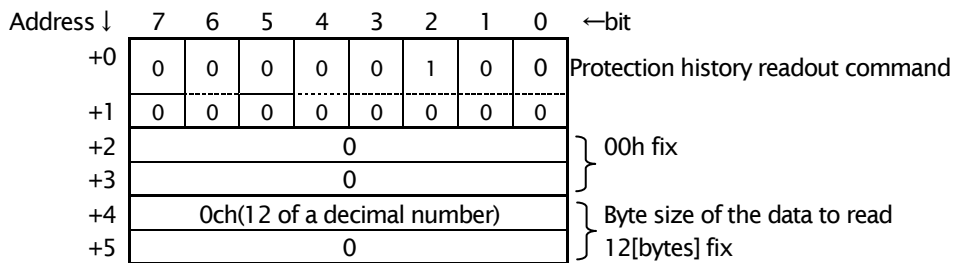

Figure 3.16 Data composition of the data write-in demand SDU (Protection history readout command)
- 1) A master station transmits the data write-in demand shown in figure 3.16 to OPCN66-Z, and directs readout of a protection history. 2nd word byte size directions are 12 [byte] (6 words) fixation.